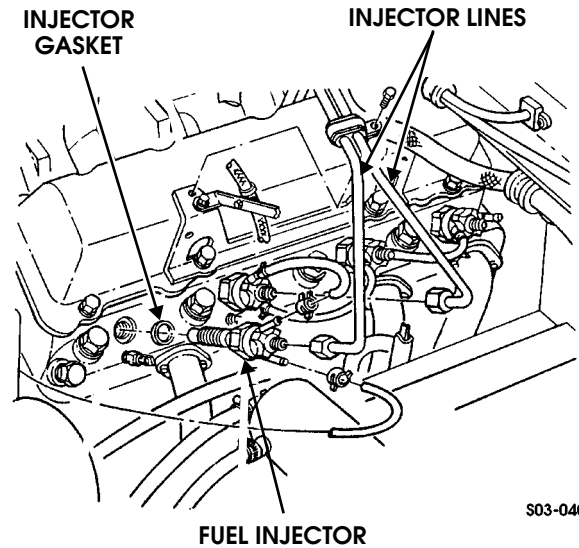

Figure 3-54: Fuel Injector and Gasket Removal/Installation (NA Diesel Shown)
2. Disconnect fuel return hoses from necessary injector (Figure 3-54).
4. Disconnect fuel line at injector (Figure 3-54).